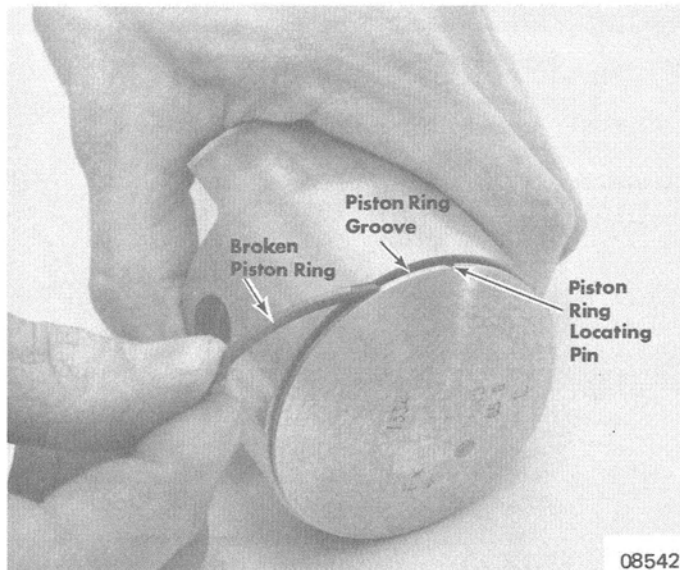

Figure 12. Cleaning Piston Ring Groove
2. Thoroughly clean pistons. Remove carbon deposits and "varnish" from pistons with a soft wire brush or carbon remover solution. Clean ring grooves with recessed end of a broken ring. (Figure 12) Do not burr or round machined edges.